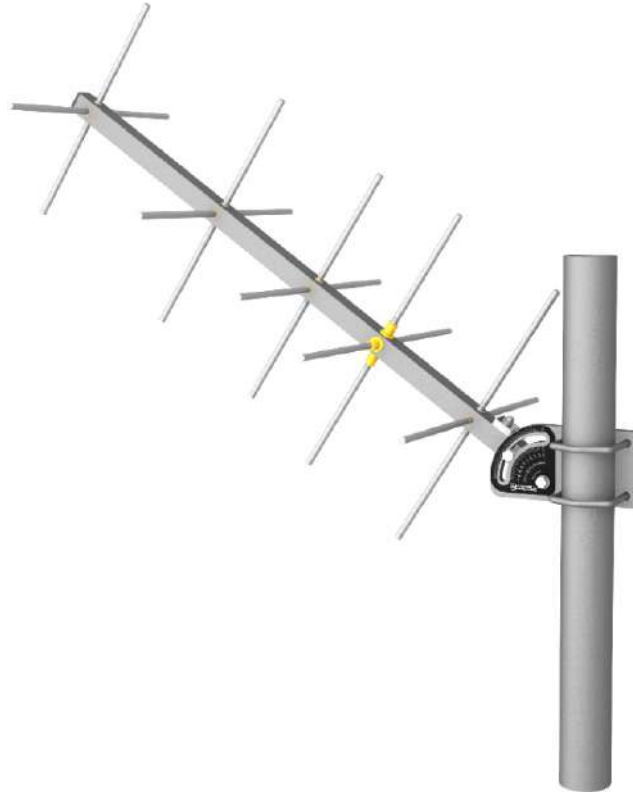

FIGURE 4-3. Yagi antenna
1. Mount the 25316 Yagi antenna to a pole or mast by using the U-bolts included with the antenna mount (see FIGURE 4-3).